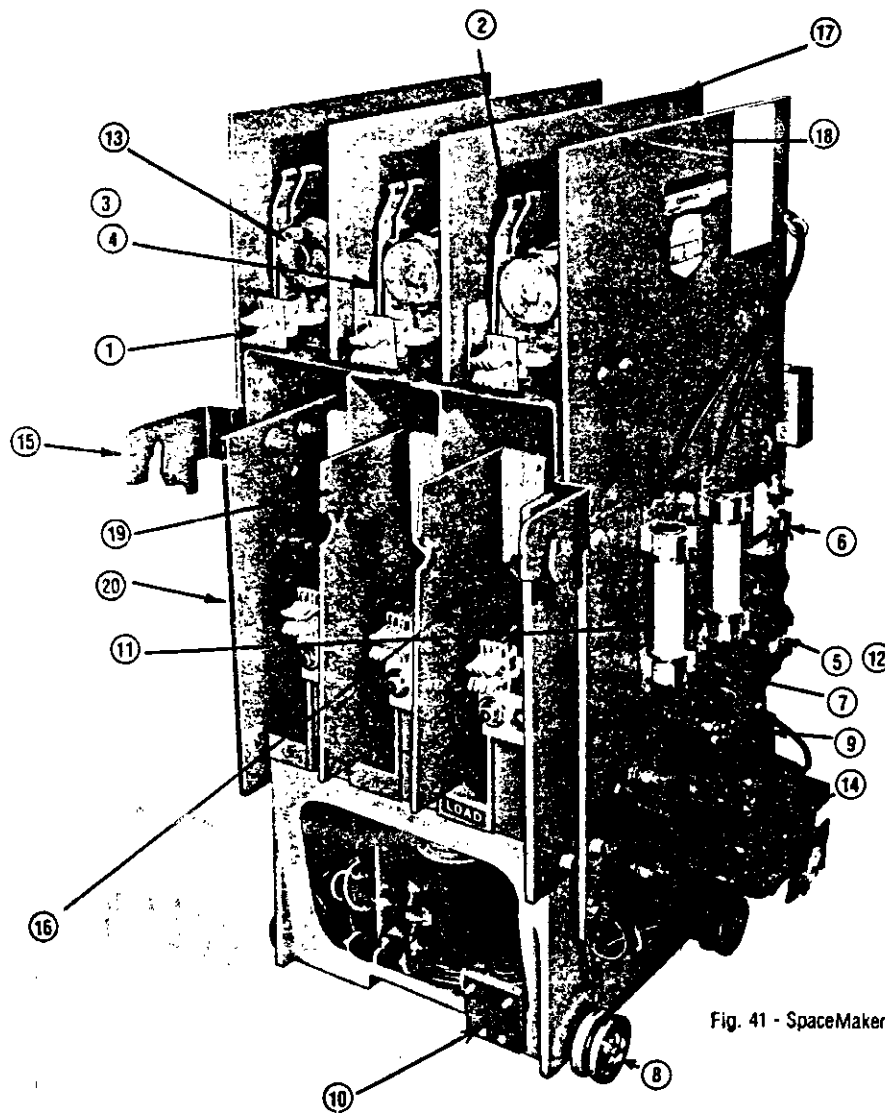

Fig. 41 - SpaceMaker II Carriage
An increase in the contact pressure has been made in the power disconnect finger assemblies item 1, Figure 41, part number 71-240-055-501. An increase in pressure of contact fingers was initiated for improved performance in corrosive environments such as paper mills and chemical plants. The original music wire springs had a 15 pound rating and were zinc plated and dichromate treated. Disconnect finger assemblies now being supplied are equipped with stainless steel springs rated at 25 pounds and have an orange color for easy identification.